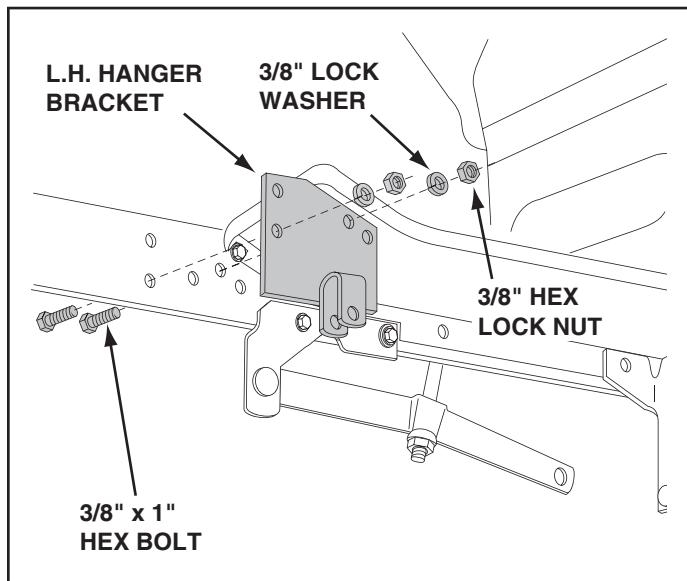

FIGURE 5
- Assemble the L.H. hanger bracket to the left side of the tractor frame using two 3/8" x 1" hex bolts, two 3/8" lock washers and two 3/8" hex lock nuts as shown in figure 5.